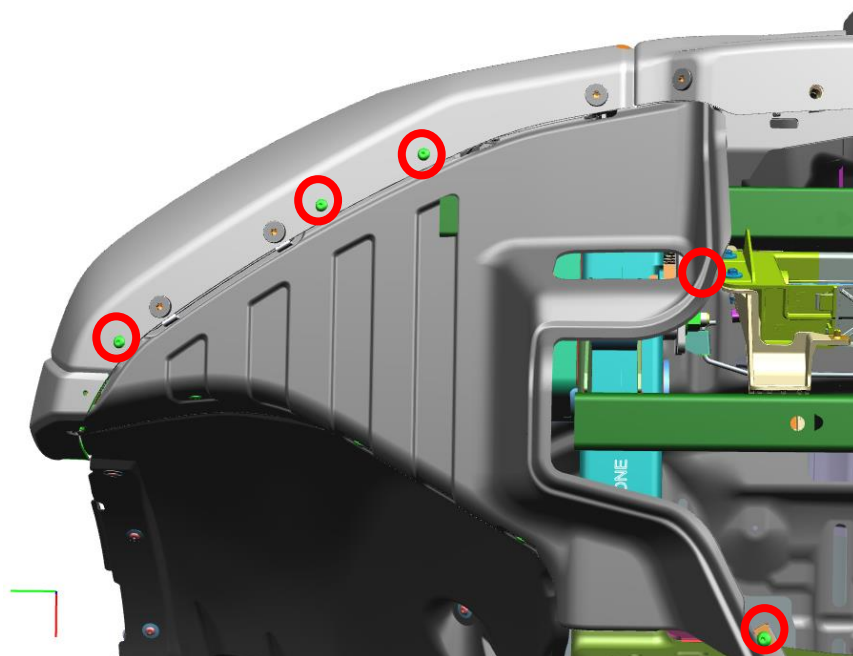

Figure 1 [No AEV Front skid pictured]
- a. Install AEV Wheel Liner Closeout using [5] M4 Bolts (T15 Socket) 11611883 per side – Fig. 1